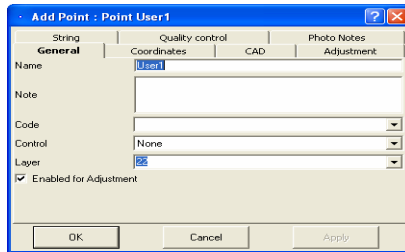

Figure 5-20. Add Point Dialog Box
- On the *Add Point* dialog box (Figure 5-20 on page 5-23) the user can correct the point name (by default “User n” where n-number), the coordinates in the coordinate system set for the current job, enter a code, string, control codes, note and set a control. Click **OK**.